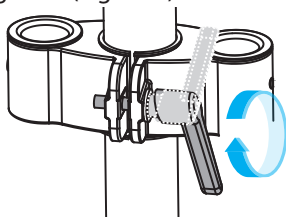

Figure 8
3. **Hold the Handle on the Shoulder Pole Mount, then Rotate Clockwise** to tighten. (Figure 8)